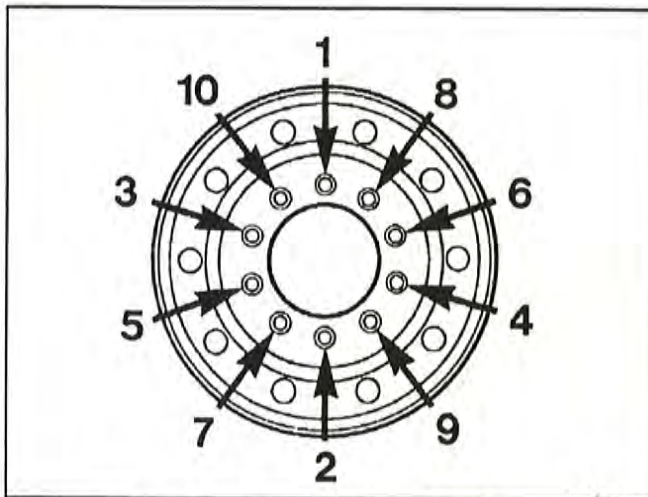

FIG. 1 - Wheel nut tightening sequence
It is important that wheel nuts be tightened alternately on opposite sides of wheel. Refer to figure 1 for recommended tightening sequence and to the following procedure.
1. Run in lightly the wheel nuts referring to figure 1 for sequence, so that wheel will position itself concentrically with hub. This is important, otherwise wheel may be eccentric with hub and will not run concentric. In this initial step, run the nuts up only as necessary to correctly position wheel.
2. Tighten wheel nuts progressively as shown in figure 1. The final tightening should be done with a torque wrench. Tighten wheel nuts to 450 - 500 ftlbs (610 - 678 Nm) for aluminum as well as steel wheels.